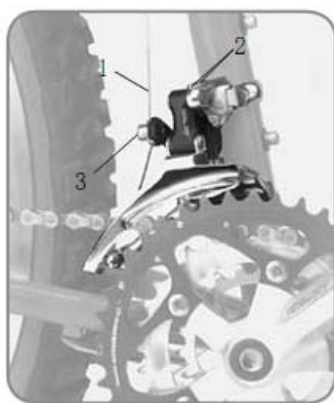

Figure 10- Front derailleur
2. Loosen the front derailleur cable clamp bolt (Figure 10) until the cable is free.